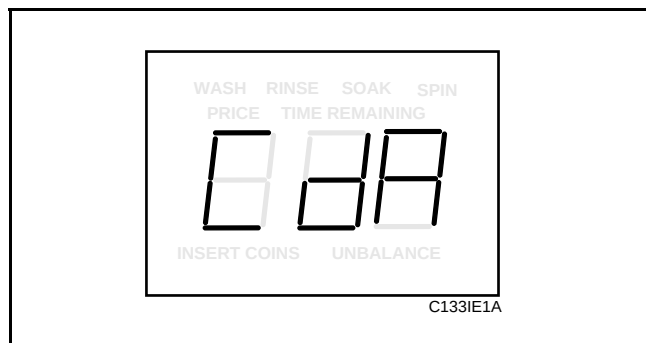

Figure 95
3. Press the DELICATES (+) pad or the COLD (-) pad to scroll through the programmable options until “CdA” appears in the VFD. See **Figure 95**.